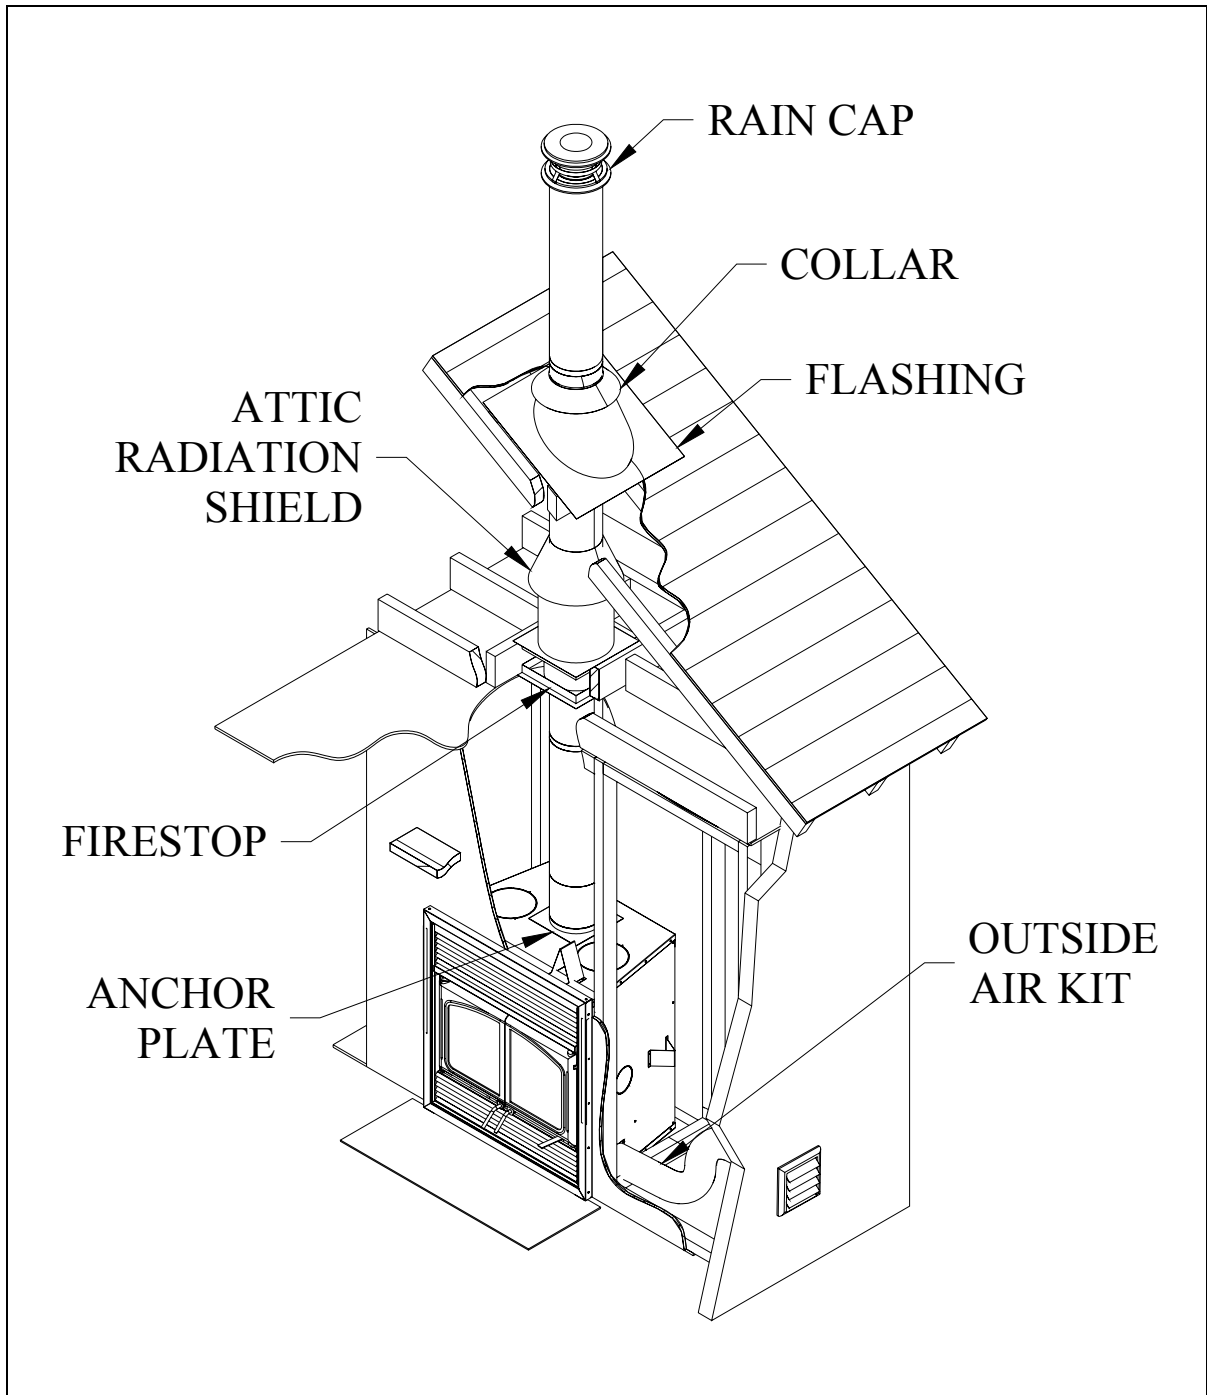

Figure 24
2. From below, install a firestop supplied by the chimney manufacturer in each ceiling/floor separation through which the chimney will pass. At the attic level, install an attic radiation shield from above (see figure 24).
3. Follow the chimney's manufacturers' instructions and place the first chimney length on the fireplace. For all chimneys, you must use an anchor plate supplied by the chimney manufacturer before installing the first chimney length (see figure 24). Continue installing chimney lengths making sure to lock each length in place.
5. Then, put the roof flashing in place and seal the joint between the roof and the flashing with roofing pitch (see figures 24). For sloping roofs, place the flashing under the upper shingles and on top of the lower shingles. Nail the flashing to the roof, using roofing nails.
5. From below, install a firestop supplied by the chimney manufacturer (see figure 24).